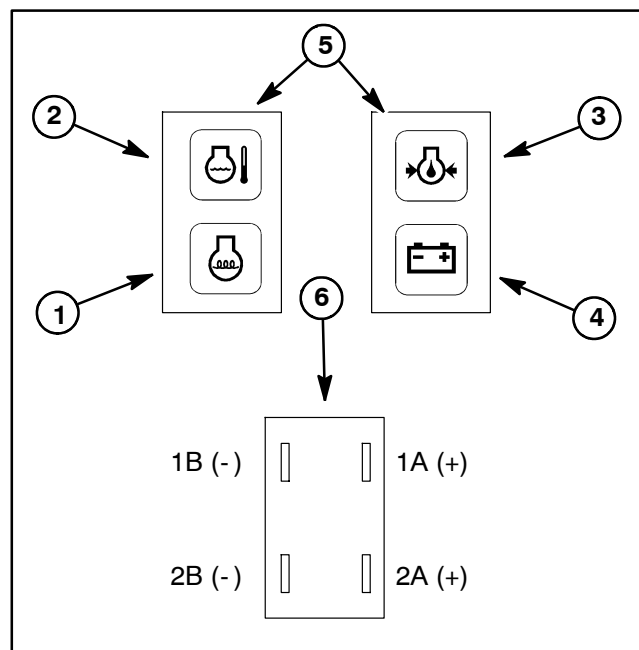

Figure 8
1. Apply 12 VDC to terminals 1A and 2A (Fig. 8).
2. Ground terminals 1B and 2B (Fig. 8).